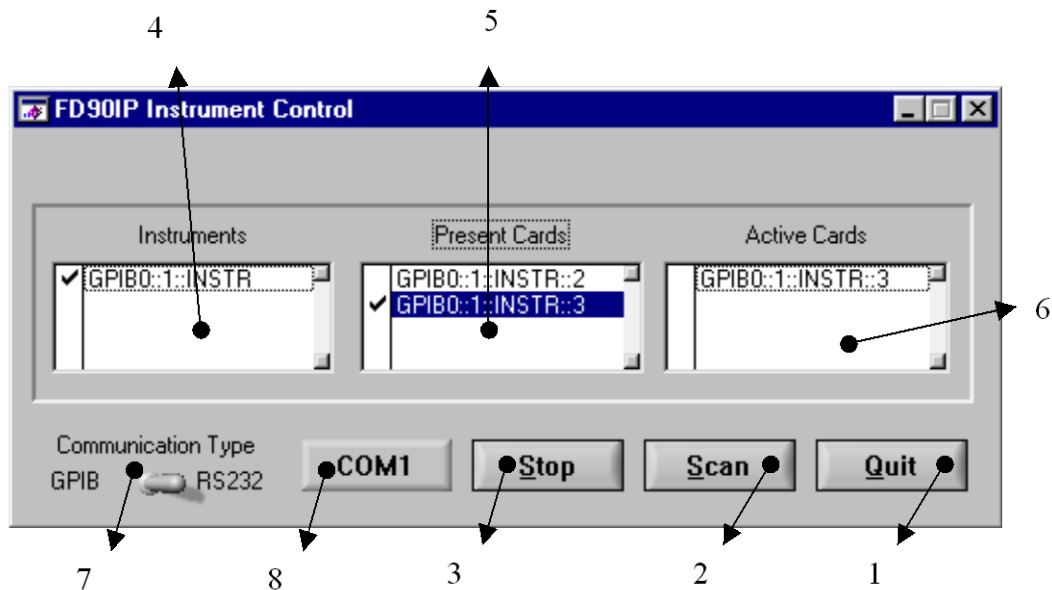
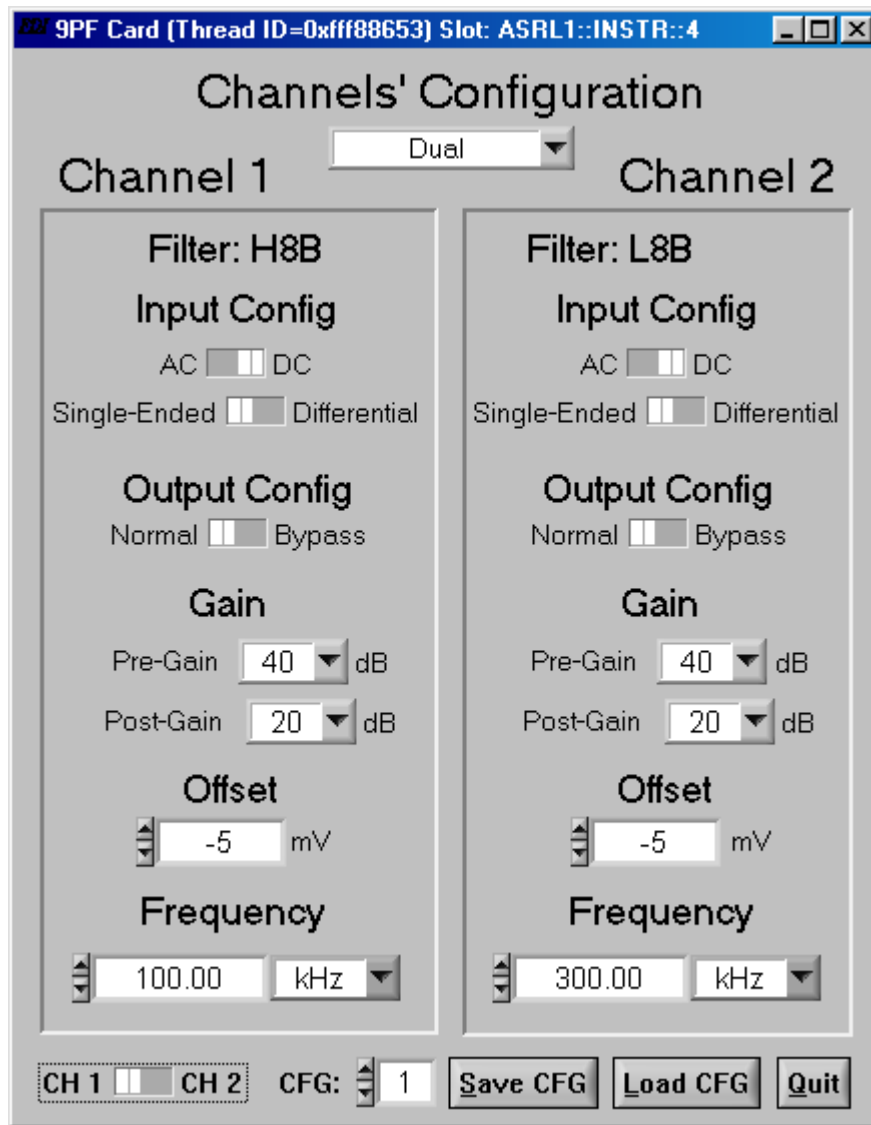

Figure 5.5 - Components of the Launch Panel
Figure 6.4d – 90PF Configuration Panel
The components of the main Launch Panel are shown in Figure 5.5:
**1 - Quit Command Button:** Use this command button whenever you want to exit or close the software. It will close the launch panel (**Figure 5.5**) and stop the parent process without affecting any child slot card process (**See Figure 6.4d**) while shutting down the IC system. You may continue to operate all active slot cards.
Figure 6.4d shows a 90PF slot card configuration. See Section 2 of the 90PF User Manual for instructions on how to configure 90PF slot cards.
Figure 6.4d shows a 90PF slot card configuration. See Section 2 of the 90PF User’s Manual for instructions on how to configure 90PF slot cards.